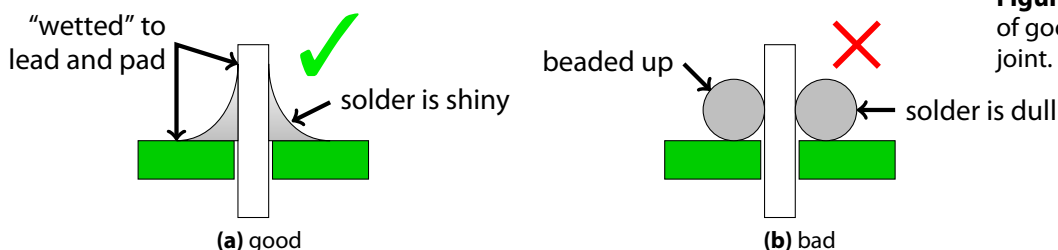

Figure 4: Cross-section of good versus bad solder joint.
- A good solder joint should be shiny and “wetted” to the surface, *not* dull and “balled up” on the surface – see Figure 4.